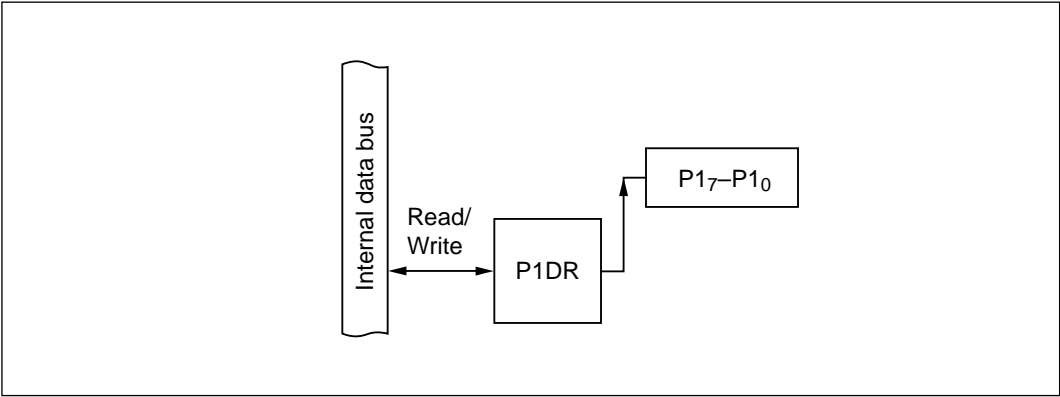

Figure 10-7 Output Port (Mode 7)
(3) **Output Port (Mode 7):** Figure 10-7 shows a block diagram illustrating the general-purpose output function. Table 10-6 indicates register read/write data. The value written in the port 1 data register (P1DR) is output at the pin. When read, P1DR returns the value written in P1DR.